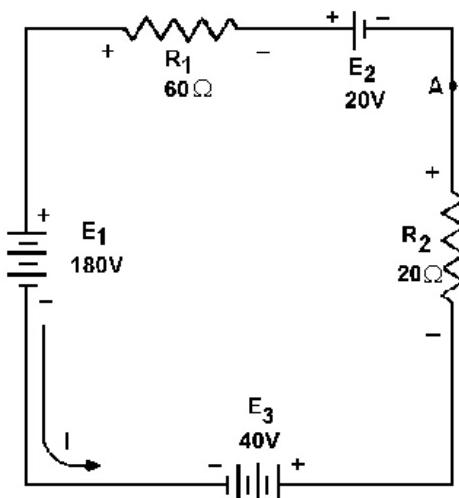

Figure 3-27.-Solving for circuit current using Kirchhoff's voltage equation.
Example: Using Kirchhoff's voltage equation, find the amount of current in the circuit shown in fig 3-27.
- Q23. Refer to figure 3-27, if R_1 was changed to a 40-ohm resistor, what would be the value of circuit current (I_T)?*
- Q24. Refer to figure 3-27. What is the effective source voltage of the circuit using the 40-ohm resistor?*